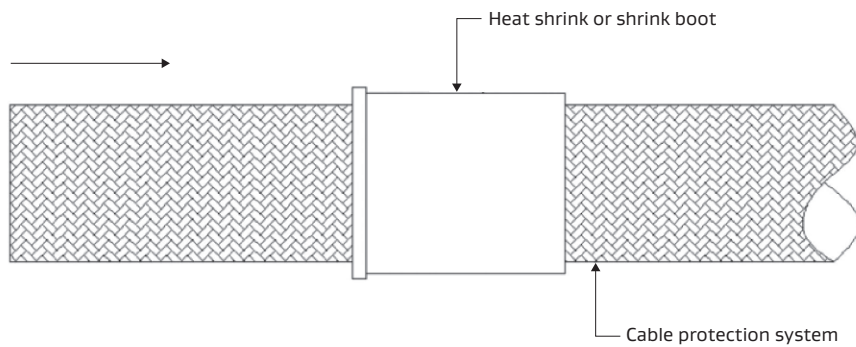

Figure 17: Sliding the heat shrink or shrink boot
2. Slide the heat shrink or shrink boot onto the cable protection system, near the first termination side (Figure 17).